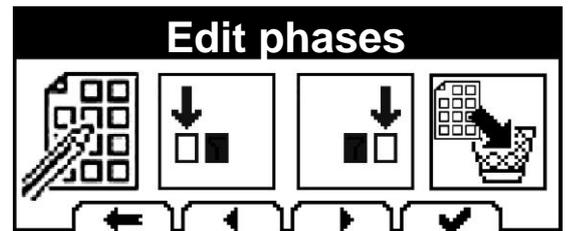

Fig. 5.17
- In **PRO operating mode** the programs allow multiple phases. Once the program to be edited has been selected, the editing submenu will be displayed (Fig. 5.17) which will allow the user to: